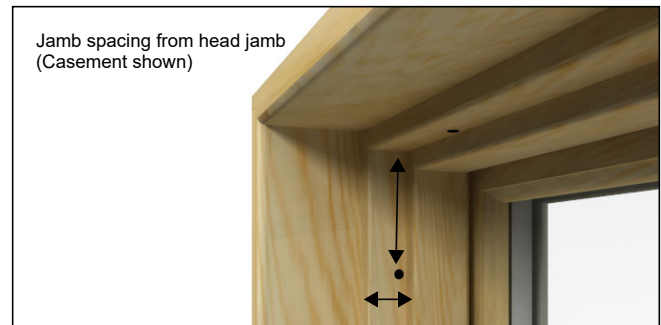
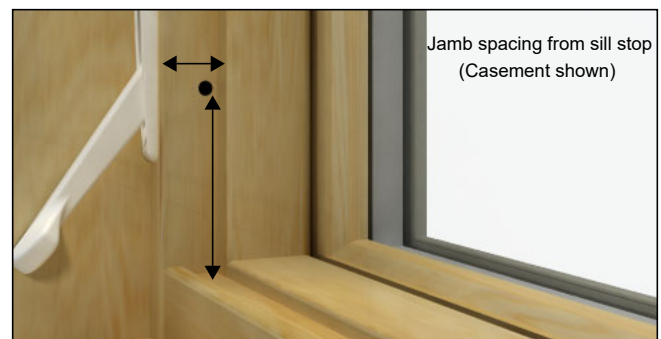
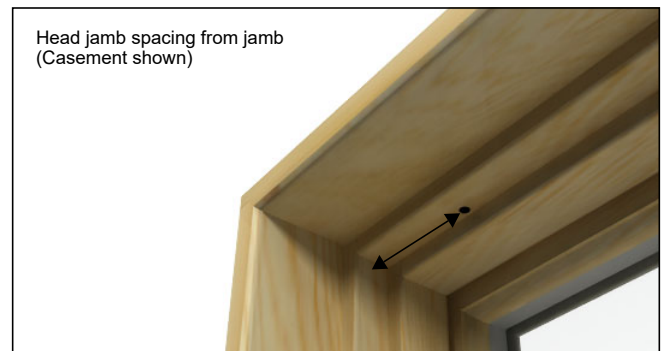

Figure 1
Figure 2
Figure 3
1. Mark hole location on wood jamb/head jamb stops using spacing chart (see chart). From the interior edge of jamb/head jamb stop measure 1/2"(13) and mark intersection point of previous dimension. Carefully drill hole at intersection, mark through jamb/header stop *only* using 3/8"(10) drill bit. Center 3/16"(5) drill bit in 3/8"(10) hole and carefully drill through jamb frame. See figure 1, figure 2, and figure 3.